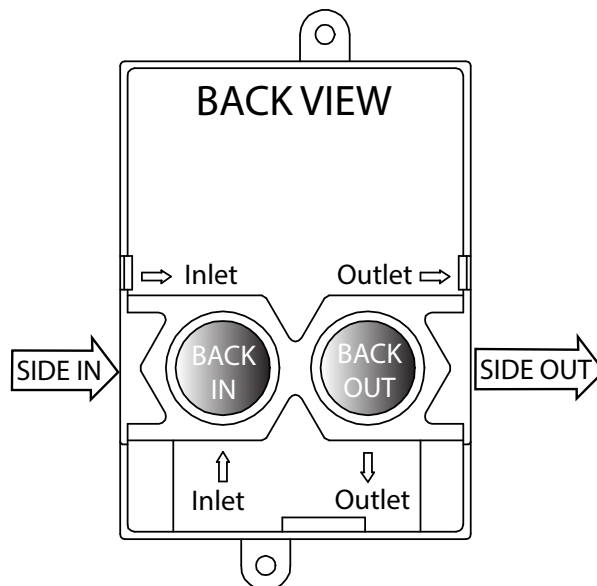

Fig. 2 Inlet and outlet connections.
The recommended installation position is up-right as shown in Fig 2, view "D". It has two (2) inlet and two (2) outlet gas connections. The diagrams below provide possible ways to plumb the E-Stop (See Fig. 3). Two (2) ½" NPT plugs are provided with the E-Stop. Plug the inlet and outlet connections not being used for the application. Connect gas supply to the inlet with the ➡ arrow pointing into the valve. Connect outlet side to the gas appliance (See Figs. 2 & 3 for details).